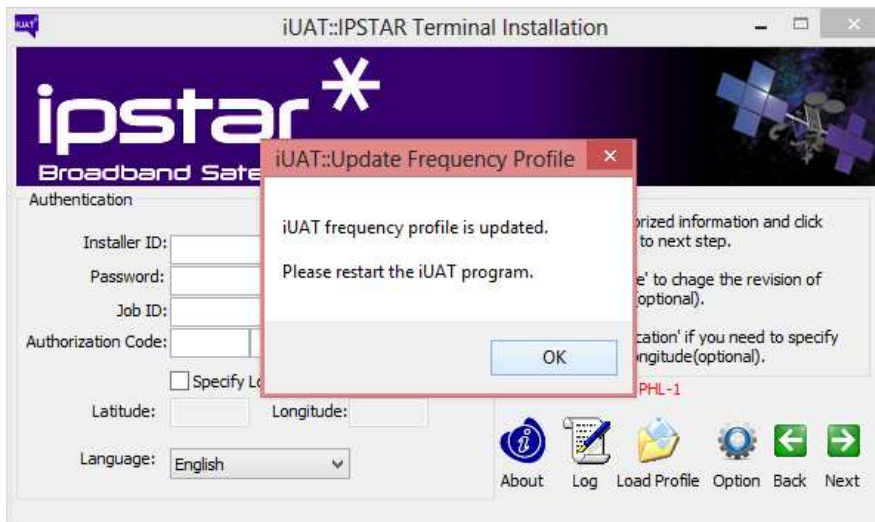

Figure 15: New profile is completely loaded
6. Once the frequency profile is updated, a dialog will appear as in Figure 15. Click "OK" to close the iUAT program.